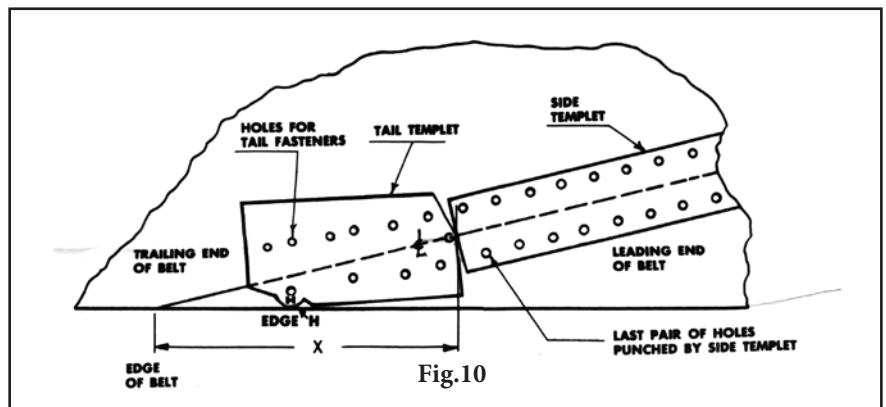

Fig.10
The square end of the side templet G is used for the proper positioning of the tail templet, Fig. 10.
10. Punch tail holes using tail templet. Position tail templet by lining edge "H" (Fig. 10) of tail templet with edge of belt cover and the centerline of edge "G" of tail templet in line with the splice joint cut so that point "G" butts against the square edge of the side templet as shown in Fig. 10. Nail templet in place and punch holes through belt.